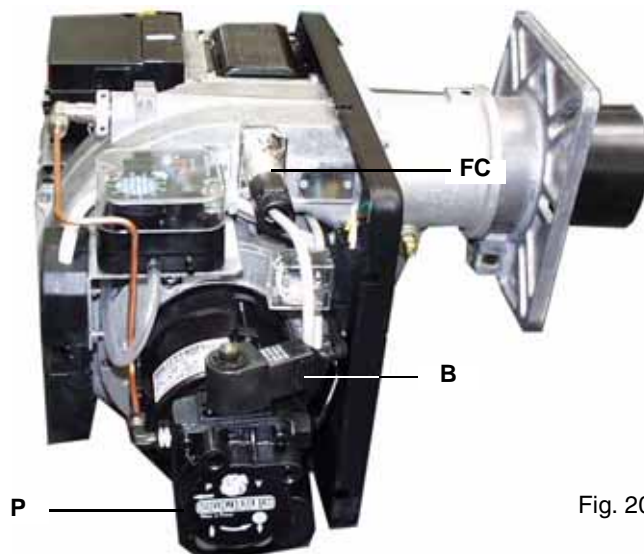

Fig. 20
- 2 remove the solenoid valve coil **B** on pump **P** (Fig. 20) to avoid the light oil to get into the combustion chamber;
- 4 remove the detection probe **FC** (Fig. 20) and light it up;
- 5 bleed the air from the **M** pressure gauge port of the pump (**P**), slightly loosening the cap and without removing it (Fig. 20);
- 10 reconnect the **B** coil on the pump (Fig. 20);